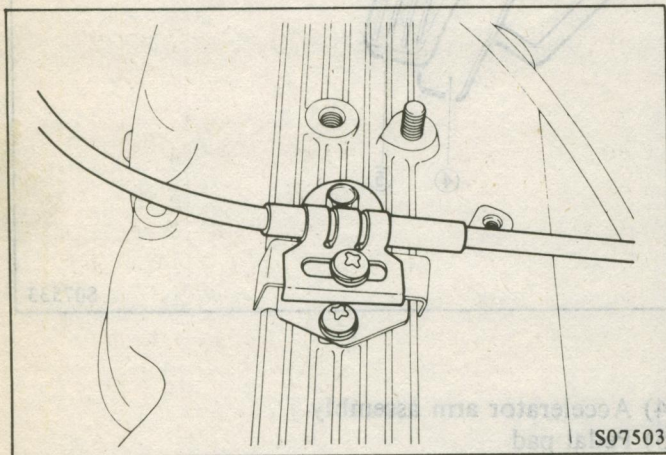
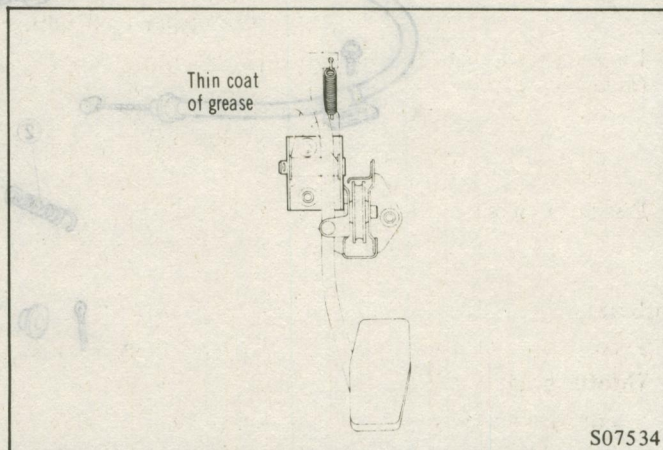

Fig. 35 Adjusting the Accelerator Cable
Fig. 36 Greasing Points
(1) Connect cable to accelerator arm. Adjust the cable holder to limit free play of accelerator pedal to within 1 mm (.04 in.). (Fig. 35)
(2) Make sure that the engine control system operates smoothly, and that the throttle valve opens completely when accelerator pedal is fully depressed.
(3) Apply MOPAR Multi-purpose Grease Part Number 2932524 or equivalent, to the points shown in Fig. 36.